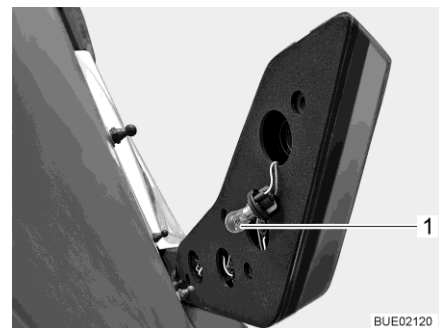

Fig. 217 Rear light
- Reach into the hole on the back of the housing. Turn and pull holder (Fig. 217,1) out (bayonet fitting). The figure shows the brake light as an example.